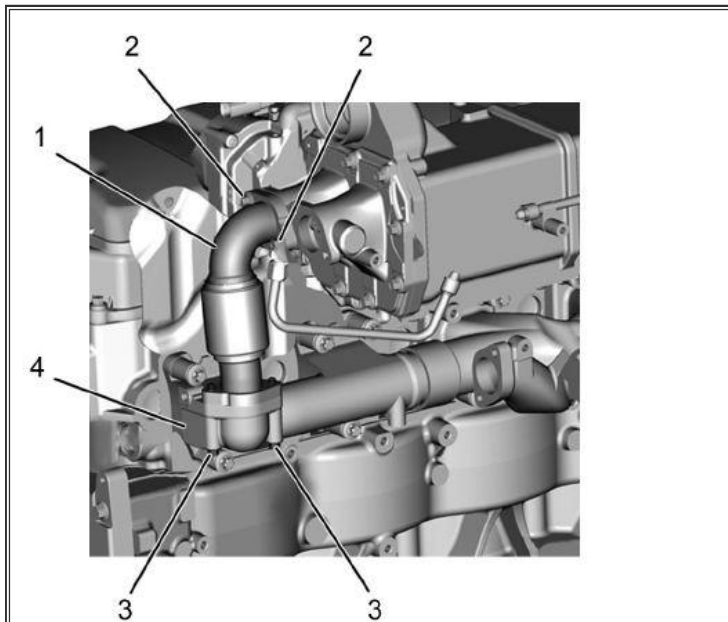

Figure 14: Inboard EGR Inlet Tube
29. Position two new EGR inlet tube gaskets, one to EGR valve and one to rear exhaust manifold (**Figure 14**, Item 4).
30. Install inboard EGR inlet tube and tighten bolts (**Figure 14**, Items 2 and 3) to 18 lb-ft (24 N-m).